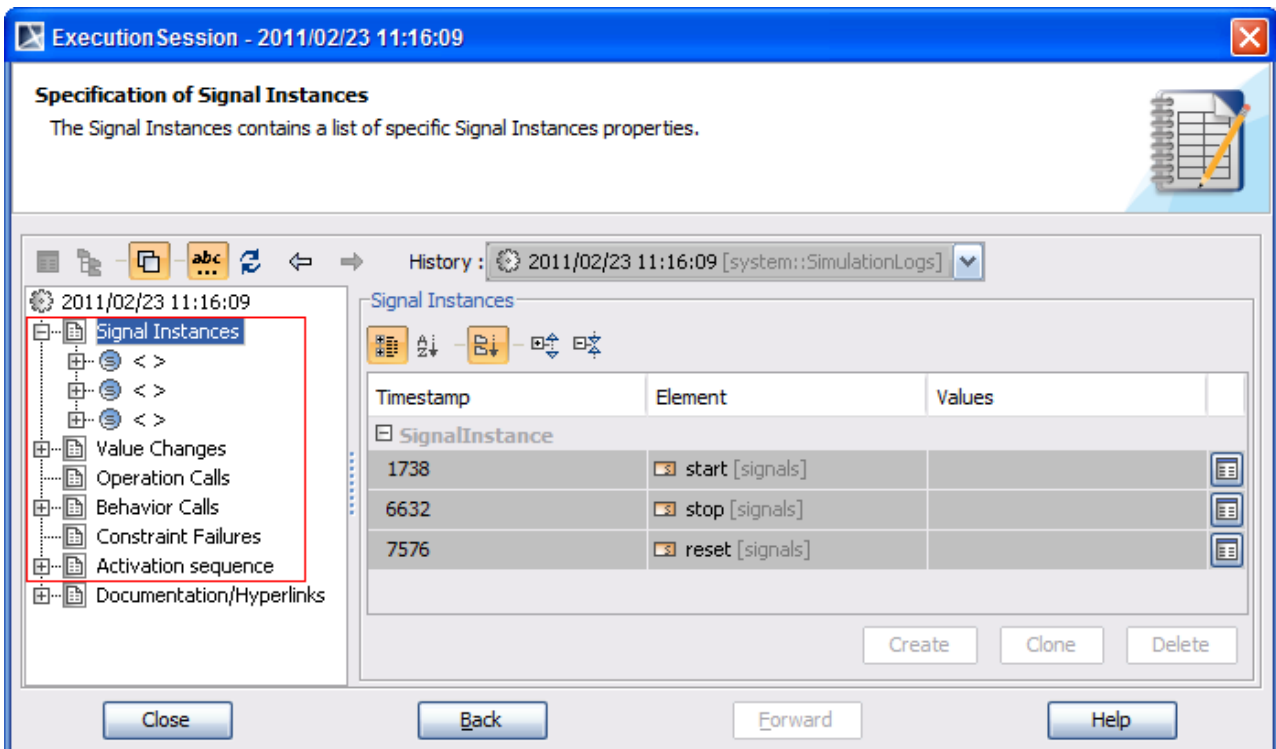

Figure 17 -- Example of Recorded Runtime Data, e.g., Signal Instance (StopWatch_advanced.mdzip)
You can record multiple simulation sessions or test results in the same «ExecutionLog» element. The session starting time can be seen as the name of the attribute. Currently, you can record the following runtime data (see Figure 17):
- **Signal Instance** (when recordSignals = true) under the “Signal Instances” node – timestamp (i.e. the relative occurrence time in milliseconds: ‘0’ when start execution), signal type and target (Figure 17).